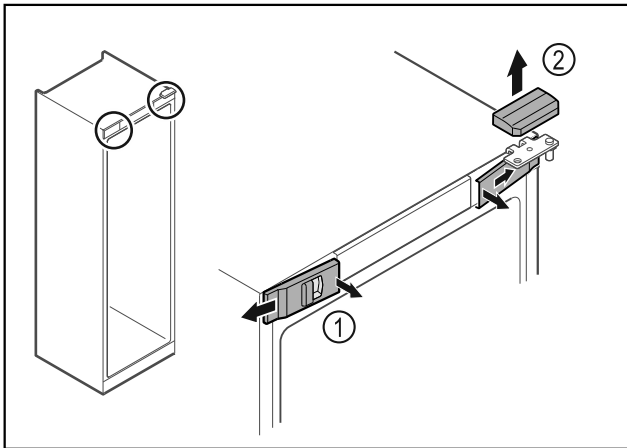

Fig. 18
- Unlatch the front covers Fig. 18 (1) on the inside and remove them sideways.
- Lift off the upper cover Fig. 18 (2).